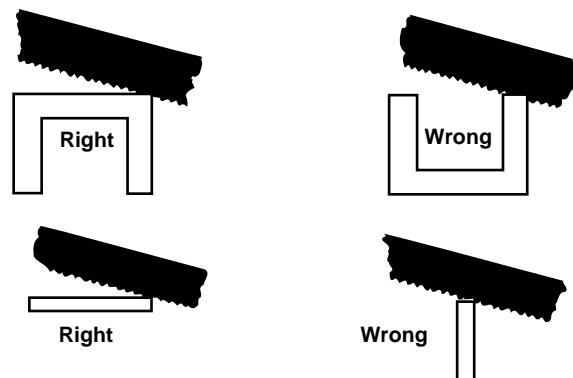

Figure 2 – Work Properly Positioned For Sawing
1. Be sure work to be cut is held securely and is properly positioned so that greatest number of teeth will contact work when cutting. (*Figure 2*)